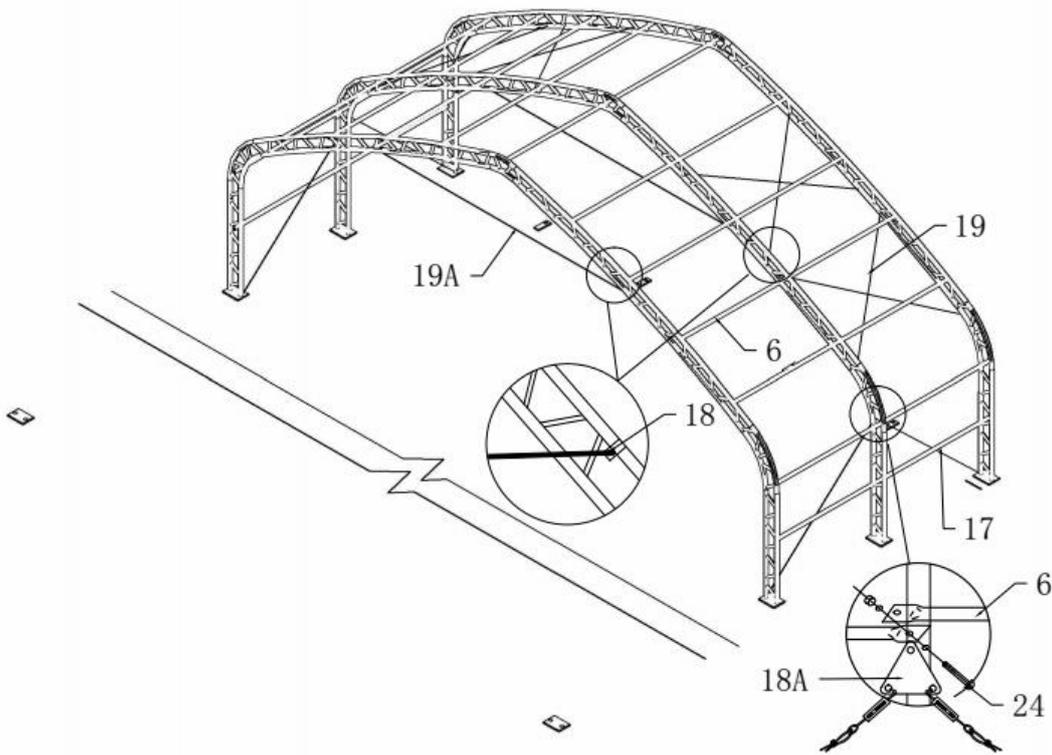

Figure 6
4. Connect the Steel wire at side (No.17)with Purlin (No.6) by using Triangle(No.18A) and Bolt 10*90(No.24) . Assemble Steel wire between two arches (No.19) and Horizontal steel wire one the top of each arch (No.19A) by using Clip(No.18)(see Figure 6).